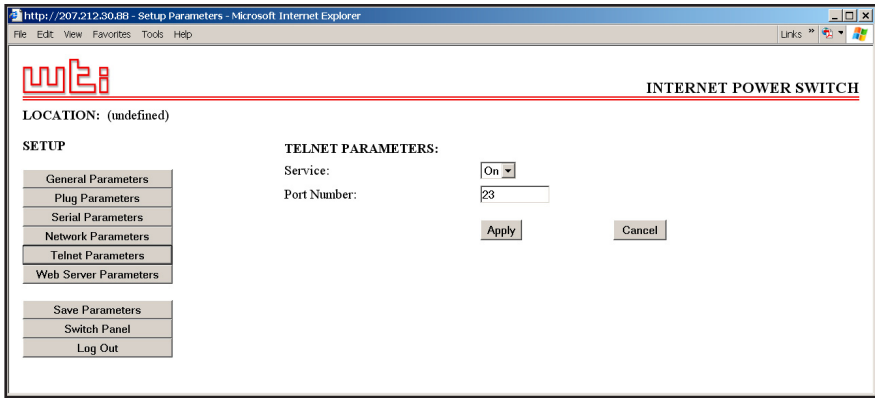

Figure 5.12: Telnet Parameters Menu - Web Browser Interface
- **Web Browser Interface:** Click the "Setup" button to access the configuration menus, and then click the "Telnet Parameters" button to display the menu shown in Figure 5.12.